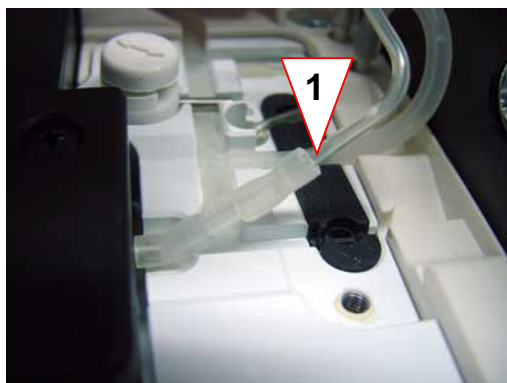

Fig. 3-24 Barex tube connection
5. Pull out the Barex tube from the tube connection (see Fig. 3-24, 1).